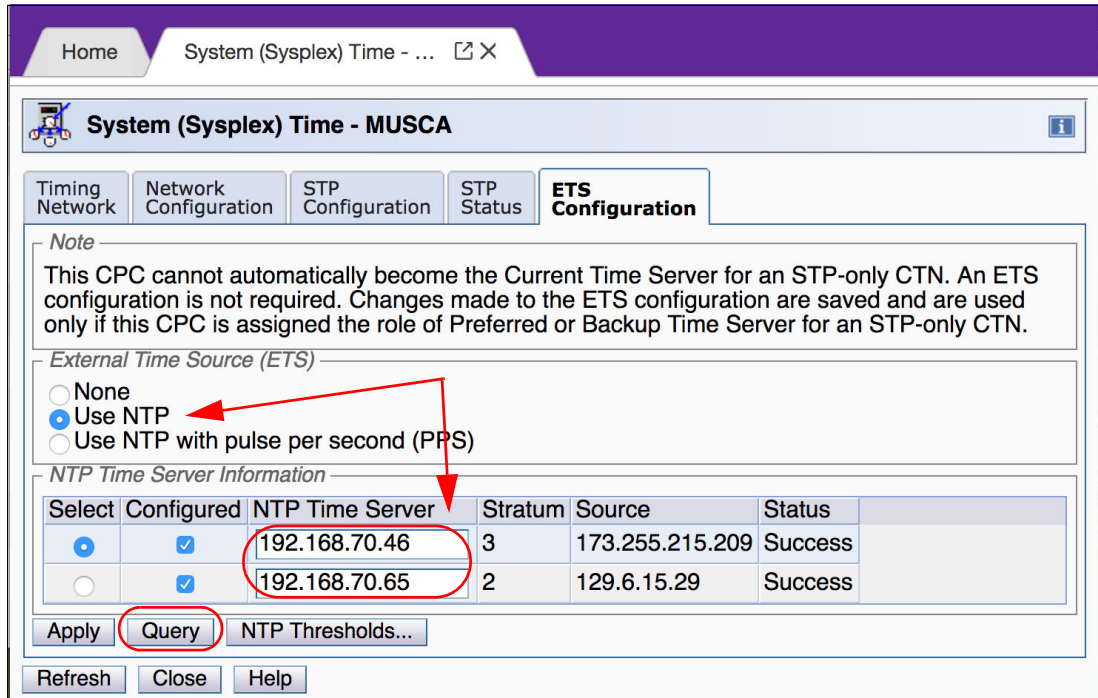

Figure 16-8 Entering ETS information
3. We select **Use NTP** and enter the necessary information. Then, we check the NTP server connectivity (by clicking **Query**), as shown in Figure 16-8 on page 396. After the NTP servers are contacted, the NTP stratum and time source information are shown.